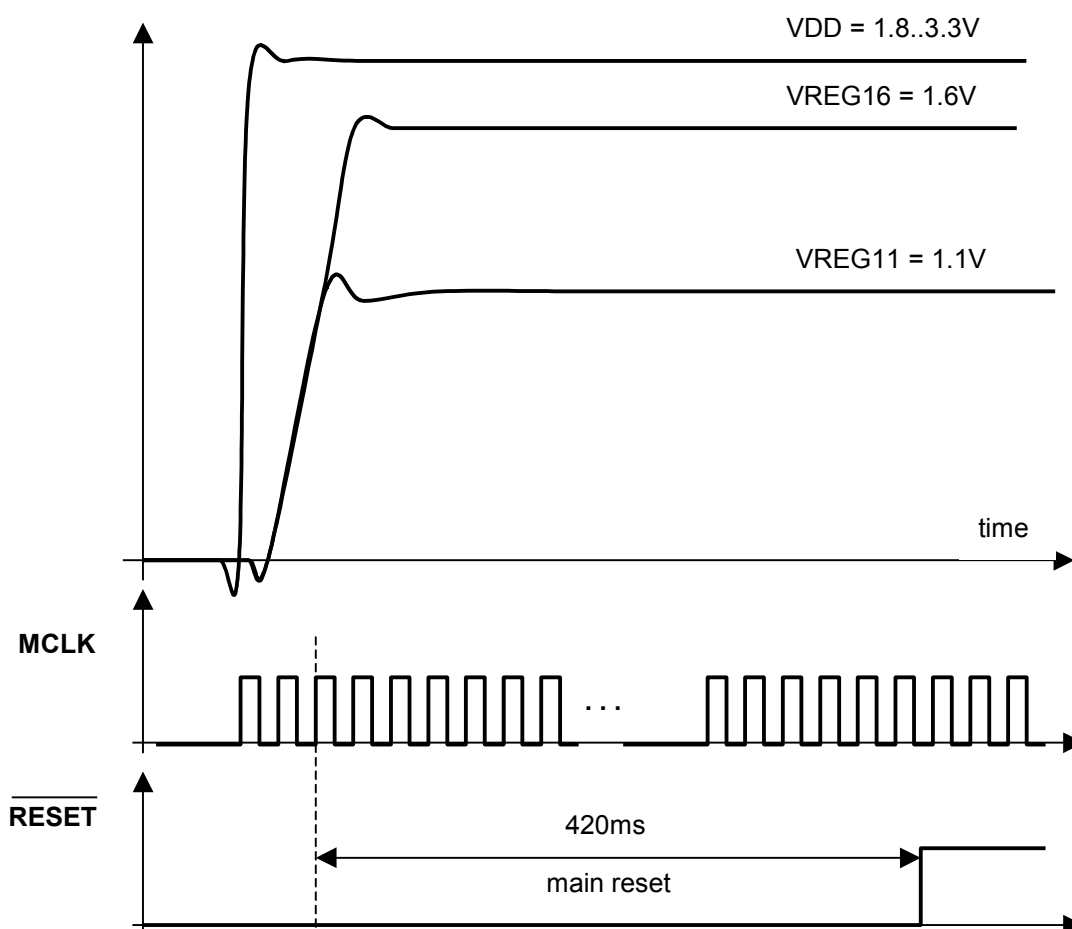

Figure 6: Startup sequence and $\overline{\text{RESET}}$ signal after power-on.
The $\overline{\text{RESET}}$ signal is used to initialize the various blocks in the device and thus guarantees a correct start-up of the circuit. The start-up sequence that is automatically carried out upon power-up of the device is listed below and illustrated in Figure 6.
- 1) $\overline{\text{RESET}}$ is active (low) when the device is not powered and remains active (low) when VDD is applied (upper curve in Figure 6). The active (low) state remains until VDD, VREG16, VREF are stable.
$\overline{\text{RESET}}$ is a high-impedance I/O terminal. It can be forced to “high” level by applying a logic 1 to the $\overline{\text{RESET}}$ terminal once the clock is running (any time during or after the “main reset” period indicated in Figure 6). In this way the start-up sequence of the device can be significantly reduced, however analog blocks may not yet fully comply with their specifications.